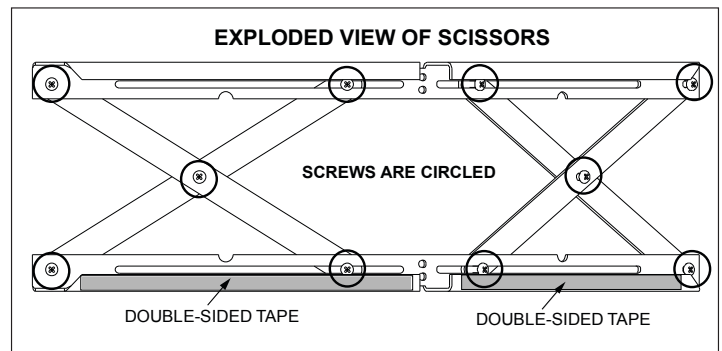

Figure 24.1
1. The 10 screws on each set of scissors will already be loose when shipped. **Figure 24.1.**